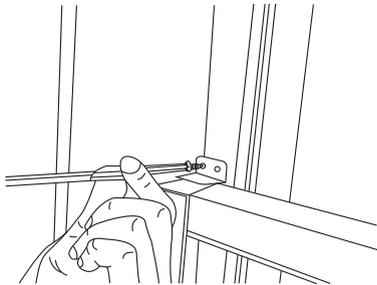

Fig.9
3. To secure lower sash in place, attach right angle sash lock with 3/4" (19mm) or 1/2" (12.7mm) screw as shown (Fig.9).